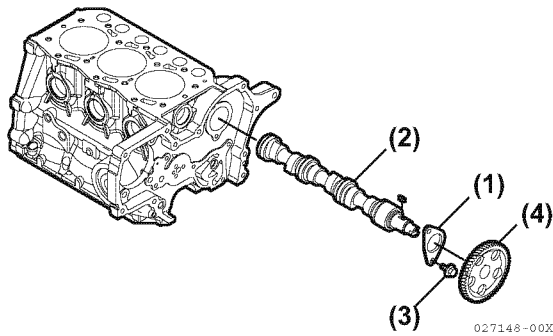

Figure 6-98
- If removed, reinstall the camshaft end plate (**Figure 6-98, (1)**), key, and camshaft gear (**Figure 6-98, (4)**) onto the camshaft using a press.
- Lubricate the camshaft (**Figure 6-98, (2)**) with clean engine oil or assembly lube. Slowly insert the camshaft through the front of the engine.
- Reinstall and tighten the cap screws (**Figure 6-98, (3)**).